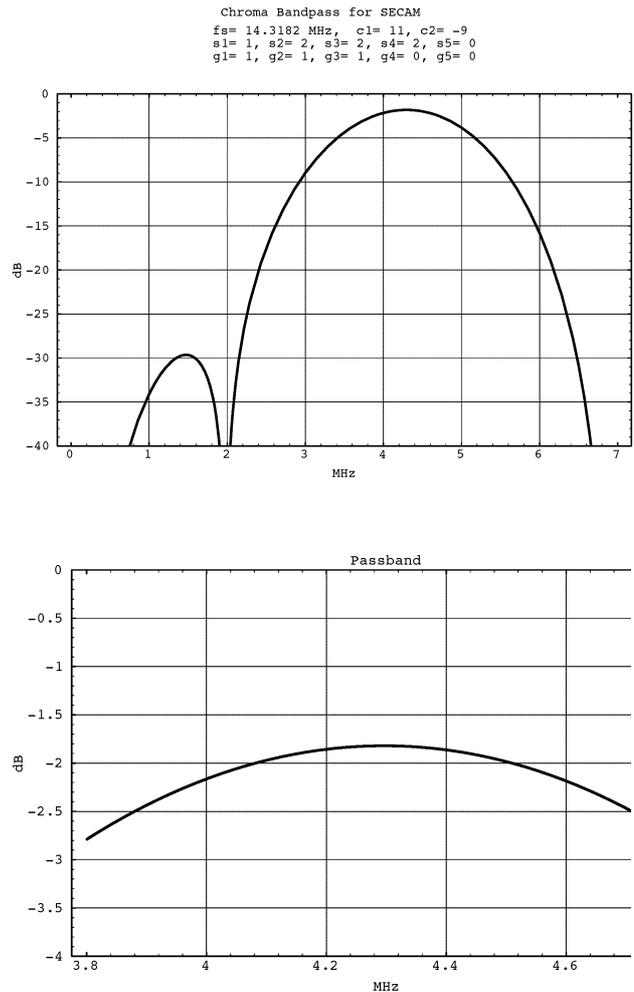

Fig. 2-6: Chroma Bandpass Filter
The chroma bandpass is a transversal filter structure. It consists of five parts. The first part can be switched to one or two frequency variable zeroes or to neutral. The other four parts are zeros that can be switched to zero or a quarter of the main clock frequency or to neutral. This filter should be used mainly for suppression of the sidebands generated by the frequency modulation in SECAM mode. The description of the transfer function can be found in the item 4.1.7 'Programming'. Typical transfer characteristics are shown in figure 2-6. The filter runs with half the main clock frequency.